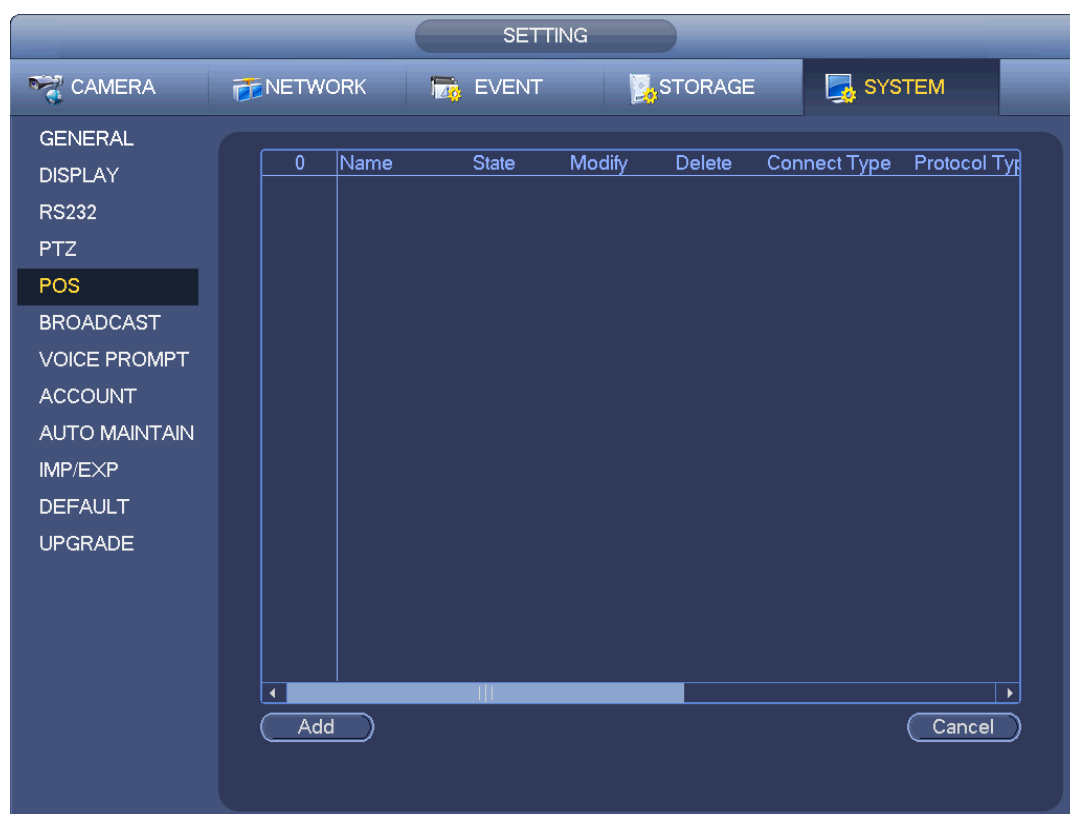

Figure 4-157
Step 1 From main menu->Setting->System->POS, the interface is shown as below. See Figure 4-157.